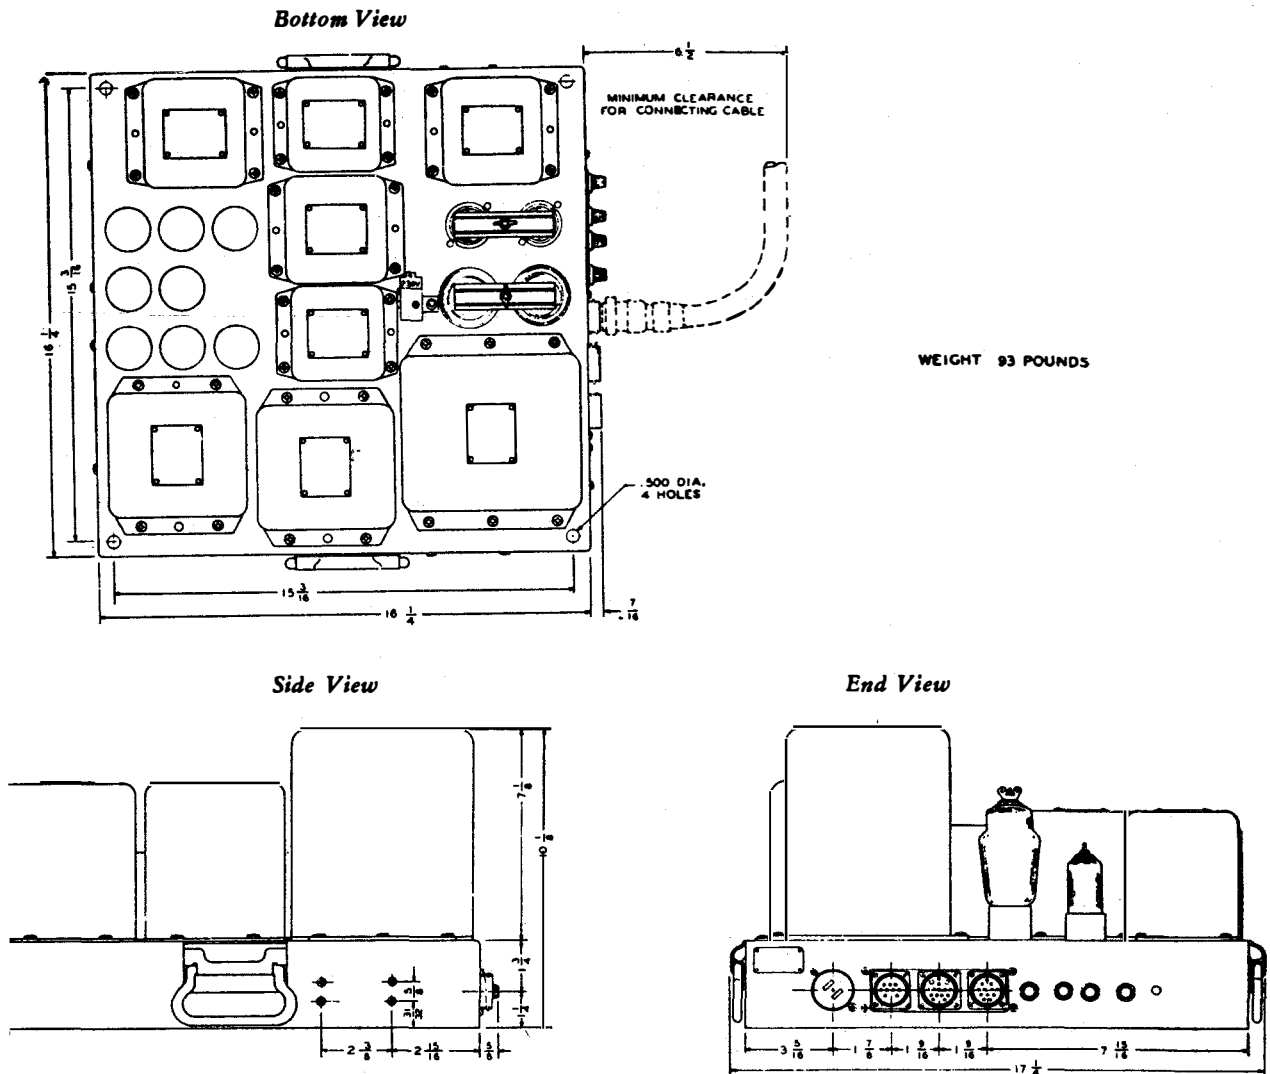

Figure 3-12 Type -20309 Rectifier Power Unit Installation Diagram
(3) **RECTIFIER POWER UNIT.** — The Type -20309 Power Unit requires a space $16\frac{1}{4}$ " by $17\frac{1}{4}$ " by $10\frac{1}{8}$ " high for mounting. Refer to Figure 3-12. The unit should be secured in position with four $\frac{3}{8}$ " bolts.